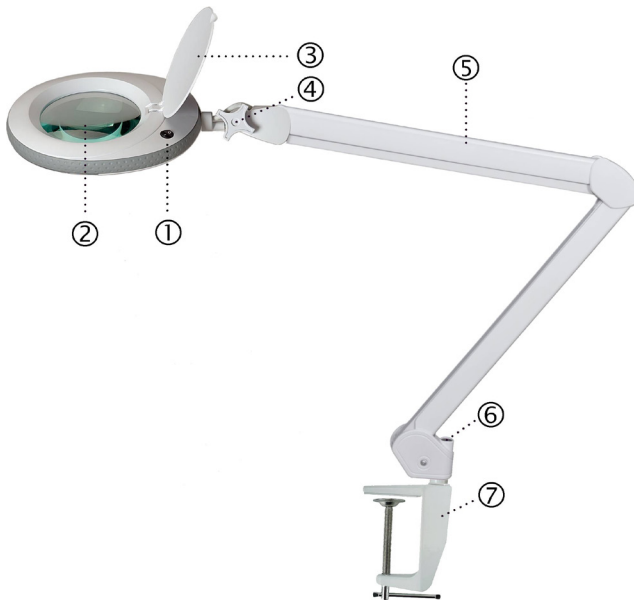

Figure 1 *Structure of the LED-Lupenleuchte*
4. Connect the supplied power supply to the power supply socket (6, Figure 1) of the LED magnifying lamp.
Loosen the locking lever (4, Figure 1), set the desired angle and tighten the locking screw again.